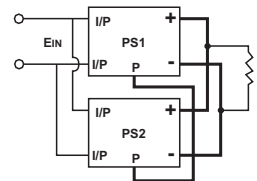

Figure 7: Wiring of S.P.S. with built-in parallel function
- (1) S.P.S. With Built-in Parallel Function: Connecting "P" terminals together such as the PSP models ("G" terminal also need to be connected together). Input/output should be connected in parallel first and then connect to the AC source/load just as figure 7 (some S.P.S. need a minimum load after paralleling).